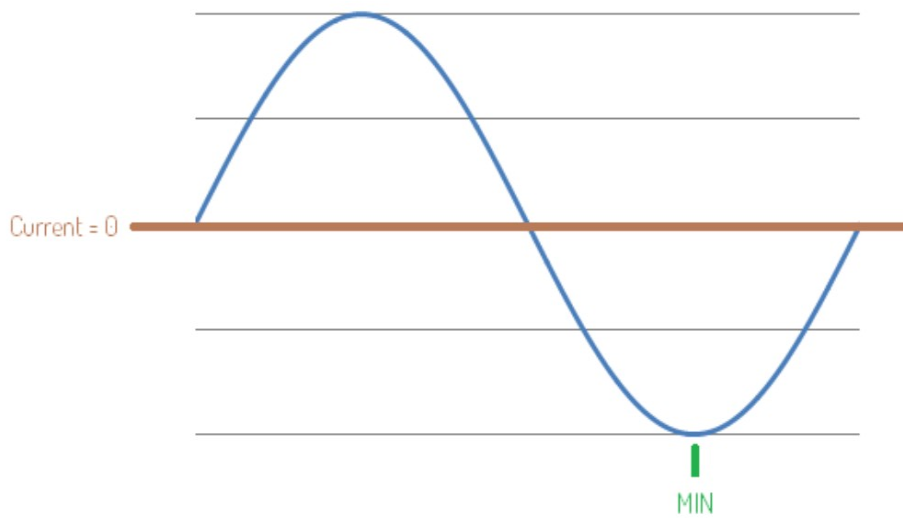

Figure 92. Trigger out event - signal minimum.
- MIN (minimum) – A signal reached its minimum (only applicable to tACS) (Figure 92)